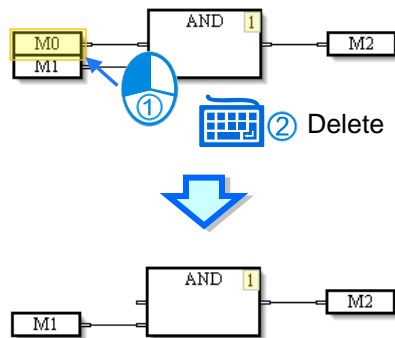

Figure 12-35 Deleting an object
- (3) The users have to click an object, and press Delete on the keyboard, as shown in figure 12-35